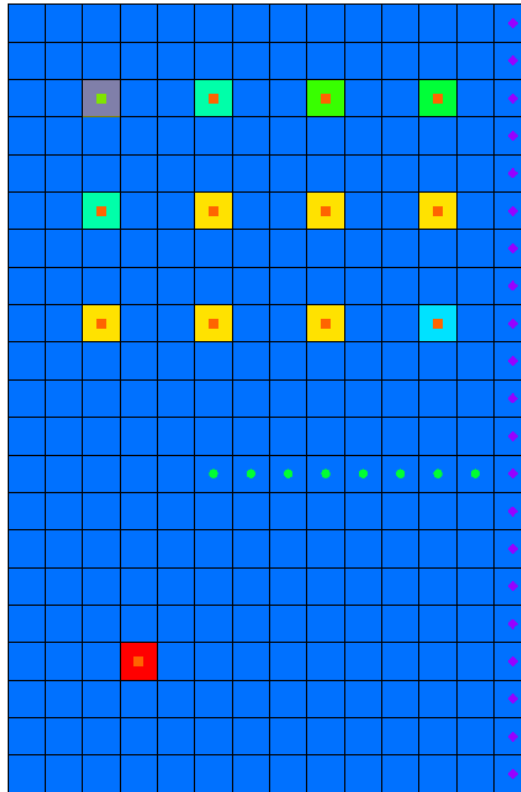

Figure 8 Selected MNW well cell
7. Using the **Select Cells**  tool, select the top right well cell (Well-A, Cell ID 31, see Figure 8).